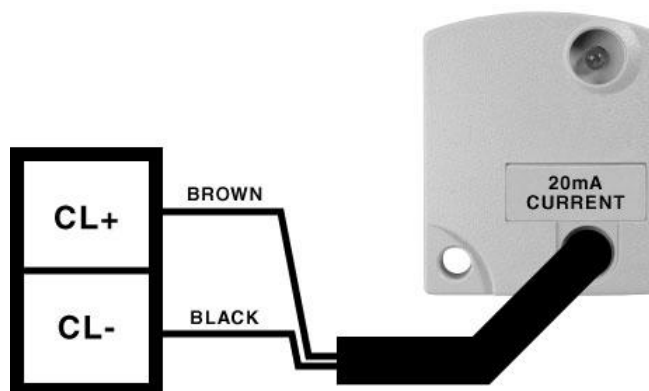

Figure 5-1: 20 mA Current Wiring
1. Connect the cable supplied into the current loop being measured - see Figure 5.1